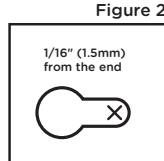

Figure 2
- Place the switch in the desired location and clearly mark the locations for the two mounting holes. See **Figure 2**. Make sure the 2-pin connector is facing the direction of the first light fixture and the 3-pin connector is facing the direction of the closest electrical outlet.